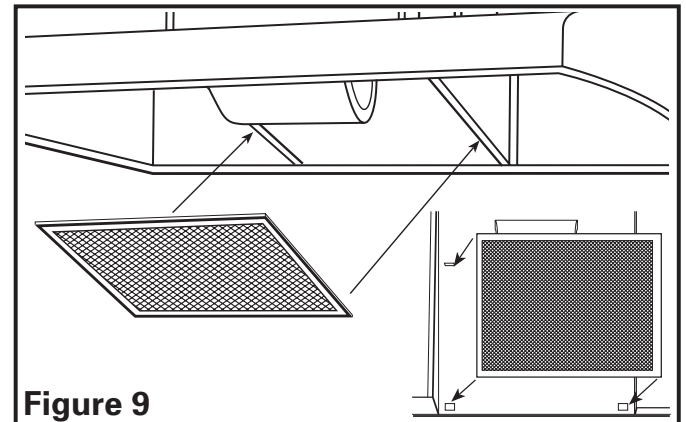

Figure 9
1. Install the appropriate filters sliding the back side of the filter into the tab and pressing the front of the filter into place (**Figure 9**).